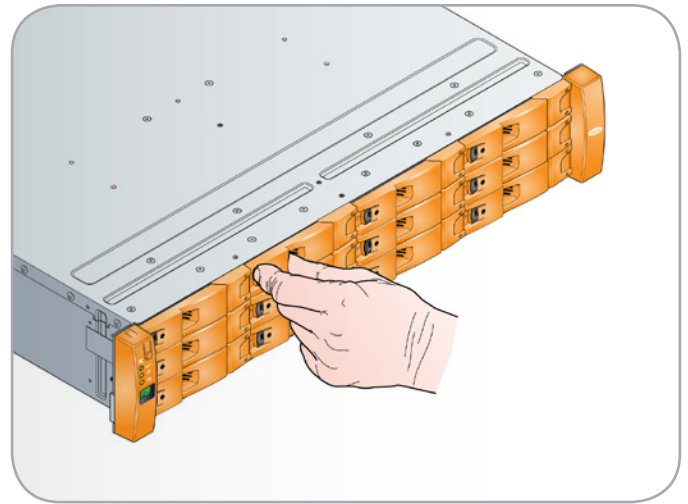

Fig. 88 - Unlatching a Drive Carrier Module
3. Release the Drive Carrier module handle, by pressing the latch in the handle with your finger and rotating the handle towards the right (Fig. 88).